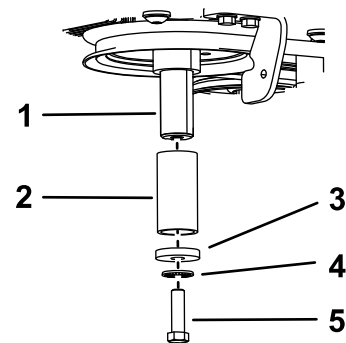

Figure 90
- C. Apply anti-seize compound to the crank shaft, then install the bolt, washer, spring washer, and a spacer (Toro part no. 136-5411) to the shaft (Figure 90).